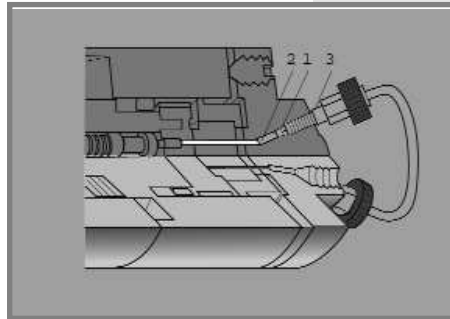

Figure 2. Cut-away view of PEEK fittings installation.
wrench-tightened. The slotted backside of the ferrule (1) is squeezed down onto the tube (2) by the mating conical surface in the nut (3). (see Figure 2). The nut and ferrule can both be reused many times. Unlike ordinary PEEK fittings, Rheodyne's unique RheFlex PEEK design, specifically the angles and surface contacts between the ferrule and nut, prevents the nut from gripping the ferrule and twisting both the ferrule and the tube during tightening. Otherwise, such twisting stresses the PEEK tubing and lowers the pressure rating of the tubing.